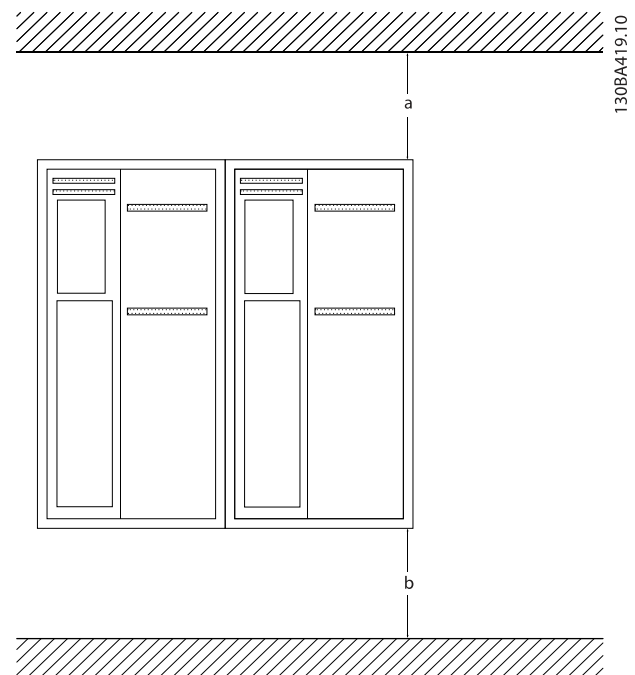

Figure 2.1 Top and Bottom Cooling Clearance
- Top and bottom clearance for air cooling must be provided. Generally, 4–10 in [100–225 mm] is required. See *Figure 2.1* for clearance requirements